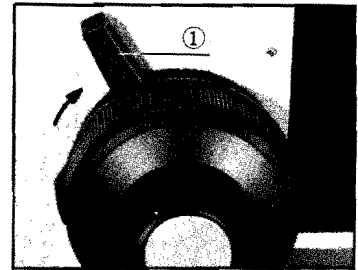

Fig. 7
This lever ① is provided to prevent possible contact between specimen and objective as well as to simplify coarse focusing. The lever is locked after coarse focus has been accomplished. This prevents further upward travel of the stage by means of the coarse adjustment knobs, and automatically provides a limiting stop if the stage is lowered and then raised again. The automatic pre-focusing lever does not restrict fine focusing. (Fig. 7)